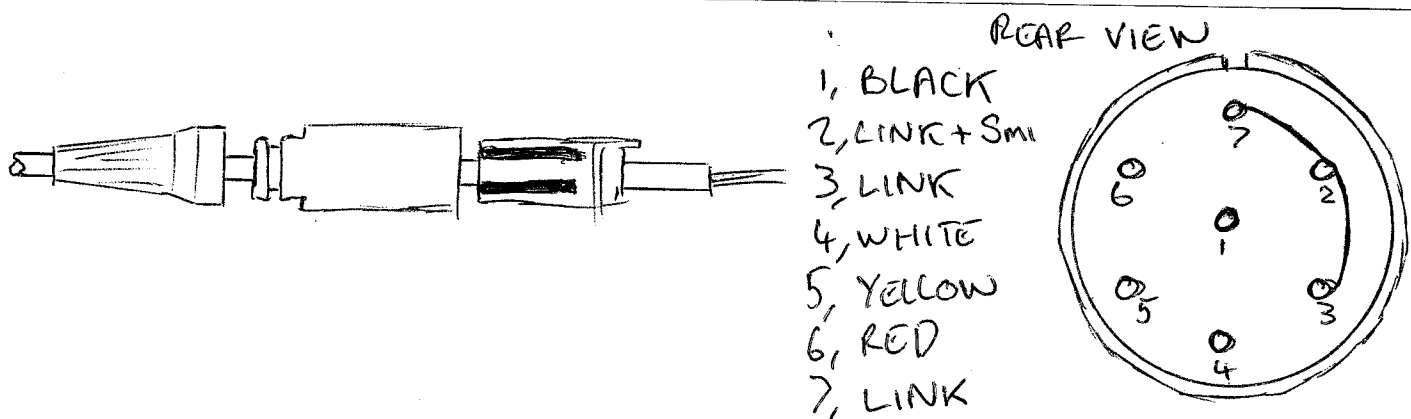

Fig 2.2
10. Solder wires and paired shields to the rear of the connector pins as shown in fig 2.2.